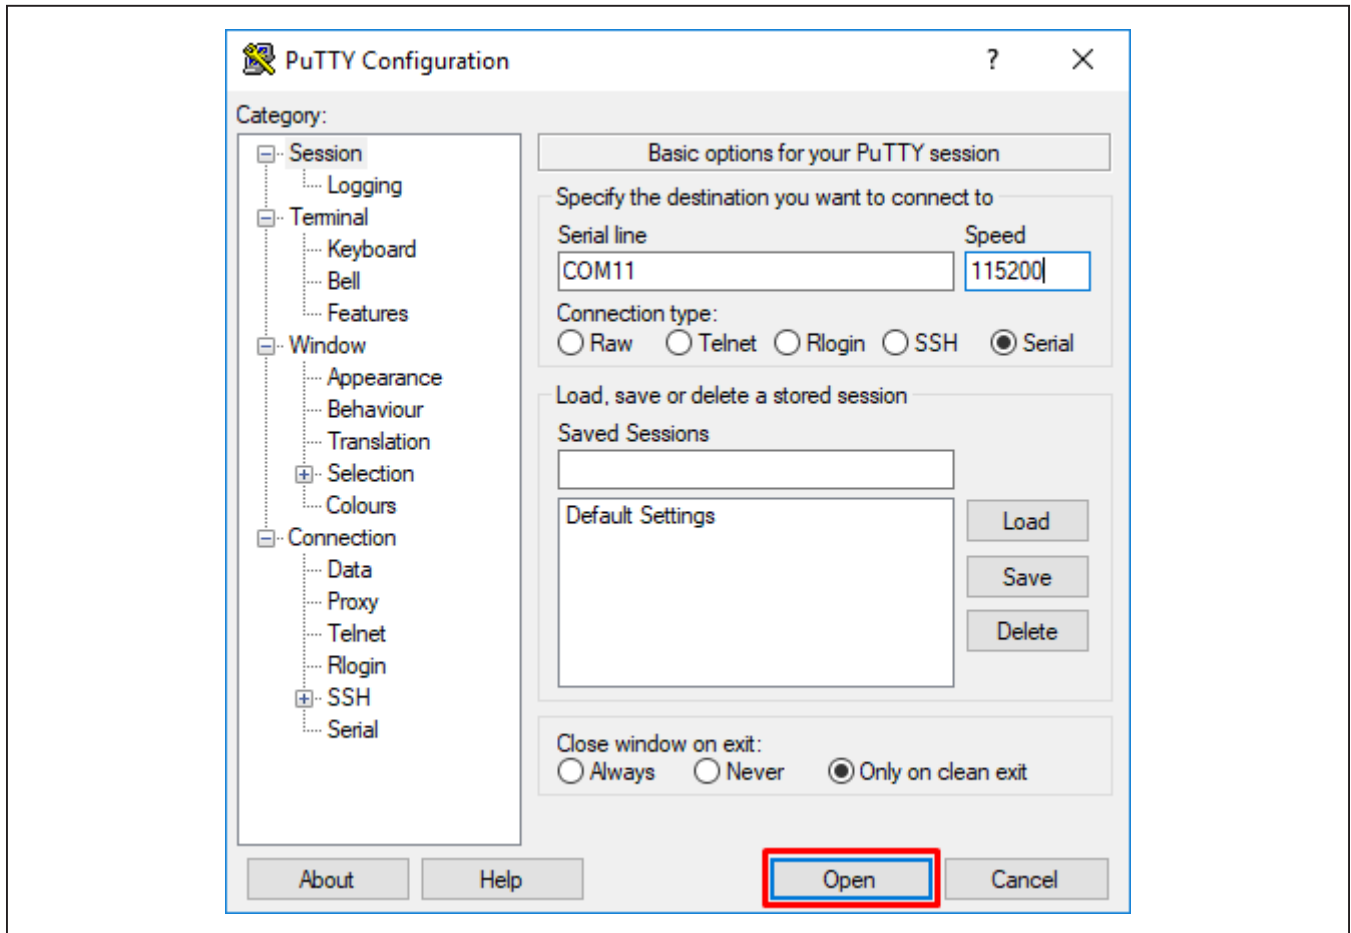

Figure 10. Opening a serial console.
10) From the **PuTTY Configuration** dialog box, open up a terminal and connect it to the MAX32660's corresponding serial COM port as shown in Figure 10.